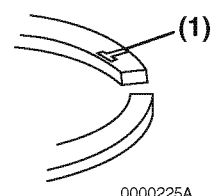

Figure 6-86
Note: Reinstall the top and second piston rings with the stamped “makers mark” (**Figure 6-86, (1)**) facing the top of the piston. The “makers mark” may vary in appearance but will always be located on the top surface of the piston ring adjacent to the piston ring gap. The oil ring and oil ring expander can be installed either side up.